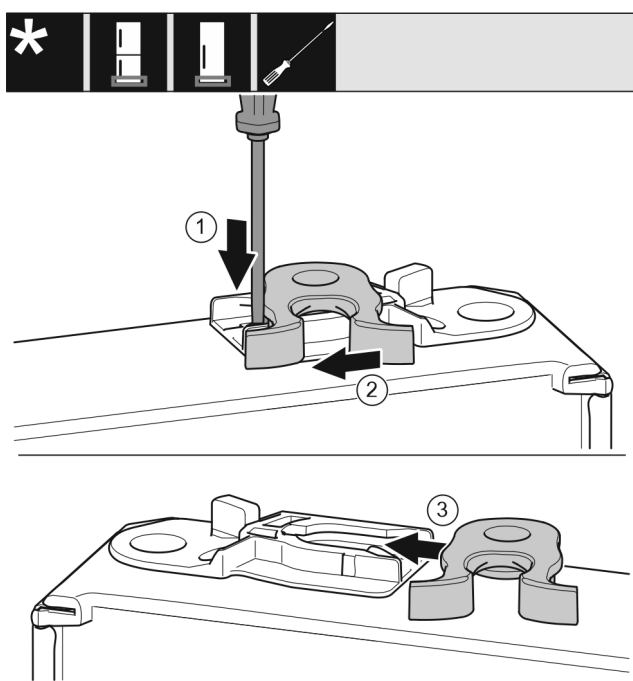

*Fig. 16*
- Put back the cover on the other side. *Fig. 16 (1)*